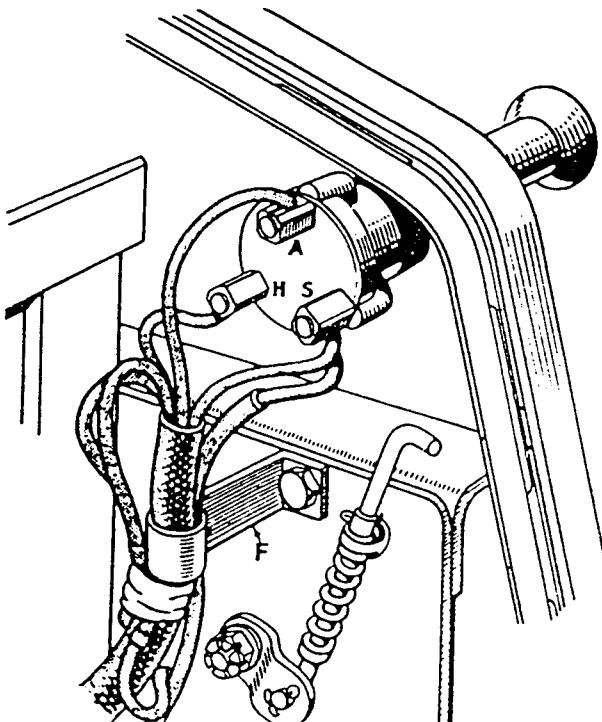

FIG. 13.
"G1" to one of the existing bolts securing starter switch, and then together with cables in main harness, hold in position at the side of battery and secure in this position by means of clip "F" as shown in Fig. 13. Take care to see that this cable does not foul the hood catch.
- (2) Connect up cables to lighting switch as follows, with reference to Fig. 13. Two red leads, one from side lamps and one from change-over switch to "S" terminal.